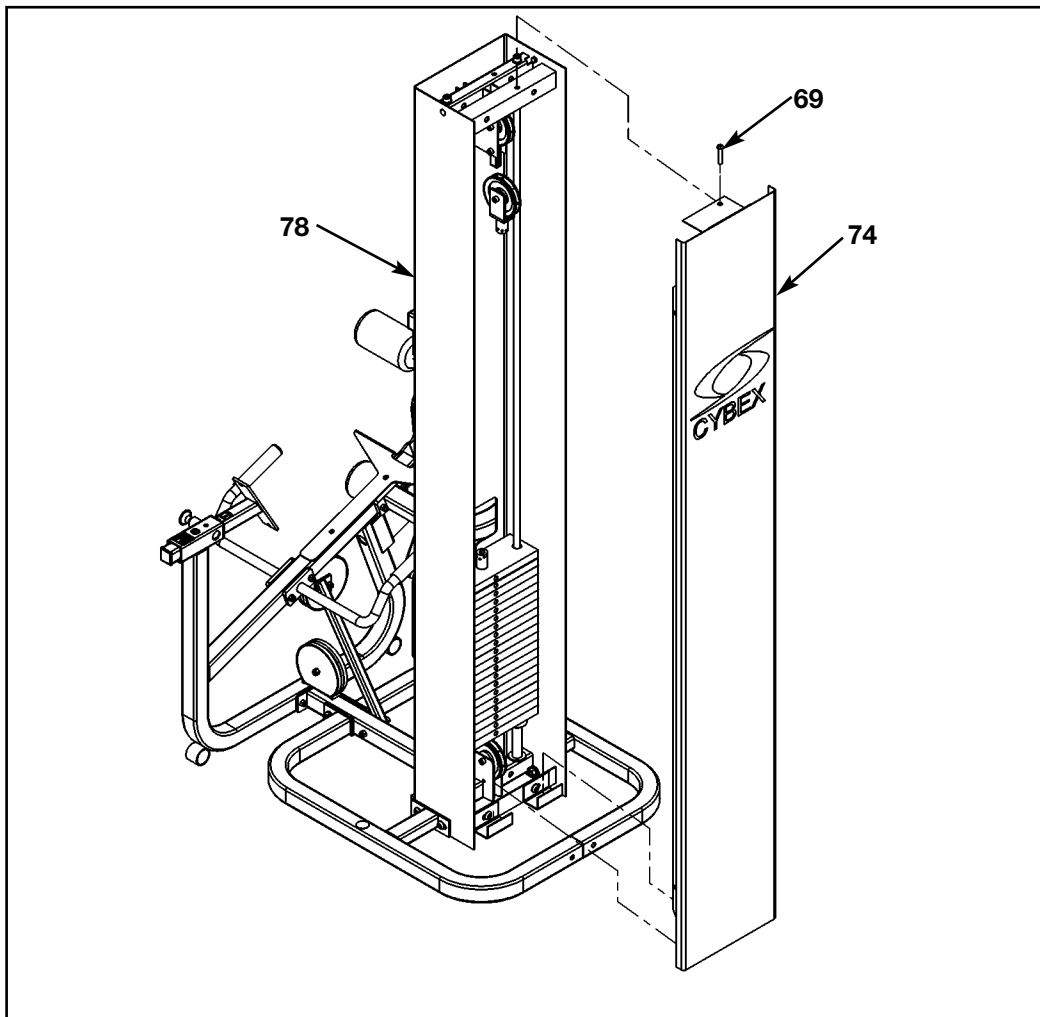

Figure 17
- K.** For Free Standing units, place back cover (#74) to column (#78) into position (bottom first) and secure using the BHSCS .375-16 x 2.00 (#69) that was removed from step 3C. See Figure 17.